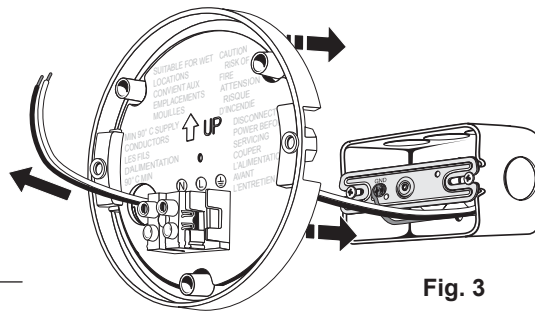
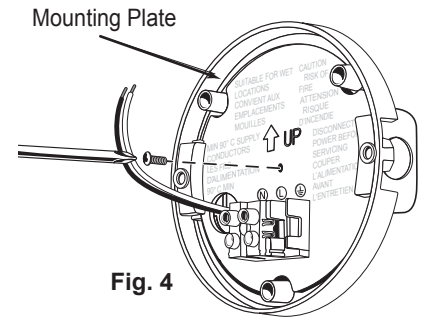

Fig. 3
Fig. 4
2. Feed the ends of the supply wires through the large hole in the mounting plate (ensure that there is enough wire to insert into the contact terminals) (Fig. 3). Line up the center hole (located below the “Arrow” and “UP” molded into the mounting plate) on the mounting bracket. Insert the remaining quick connect screw into the center hole and tighten until the mounting plate is securely attached to the junction box (Fig. 4).